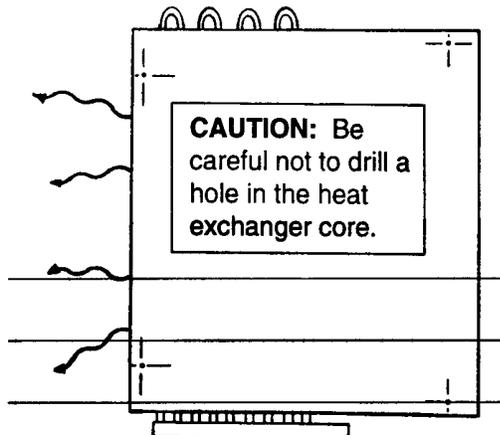

**Figure 9**
1. Cut an opening of 3-1/8" X 14-1/2" for the output register. Utilize Figure 9 that shows the front view and side view.